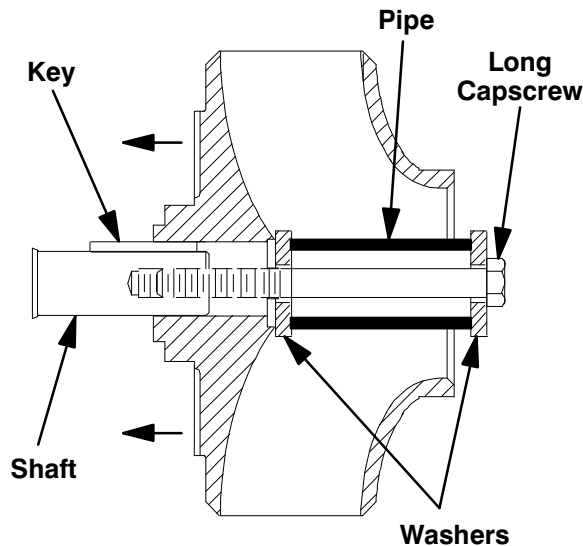

Figure 9. Installing Impeller
Install the same thickness of impeller adjusting shims (56) as previously removed. Install the shaft key (46) and position the impeller on the shaft. See Figure 9, and use a section of pipe, washers and a long, 5/8–11 UNC capscrew to press the impeller onto the shaft until fully seated (**do not use the impeller lock screw**). Make sure the seal spring seats squarely over the step on the back side of the impeller.